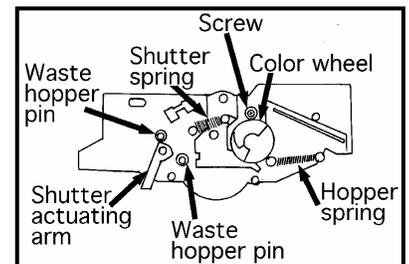

Figure 2
2. Remove the shutter actuating arm (Fig. 2).
3. Remove the color wheel (wiggling up, down and out- Fig. 2).
4. Remove the upper shutter spring (small one) and the hopper spring (Fig. 2).
5. Remove the two pins holding the waste bin in place, the one screw holding the drum axle in, then the drum axle itself (you must hold the upper shutter-bar flat to get the axle out), then remove the large pin holding the hopper in place (Fig. 2).